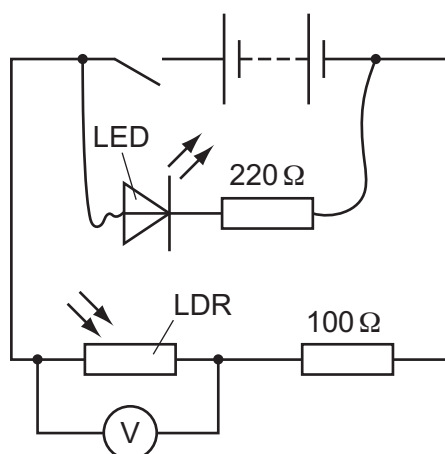

Fig. 3.1
4. The supervisor should set up the apparatus as shown in Fig. 3.1.
The supervisor must ensure that the circuit is in the configuration shown in Fig. 3.1. The LDR and the LED must be separated. If cells are used, they should be checked and replaced, if necessary.